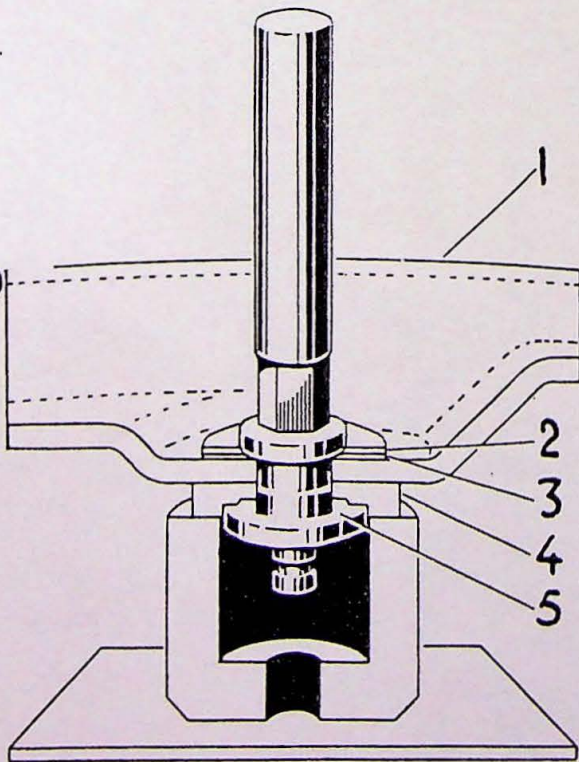

Fig. 22.
as shown in Fig. 22, and drive out the bolt (5) with the drift.